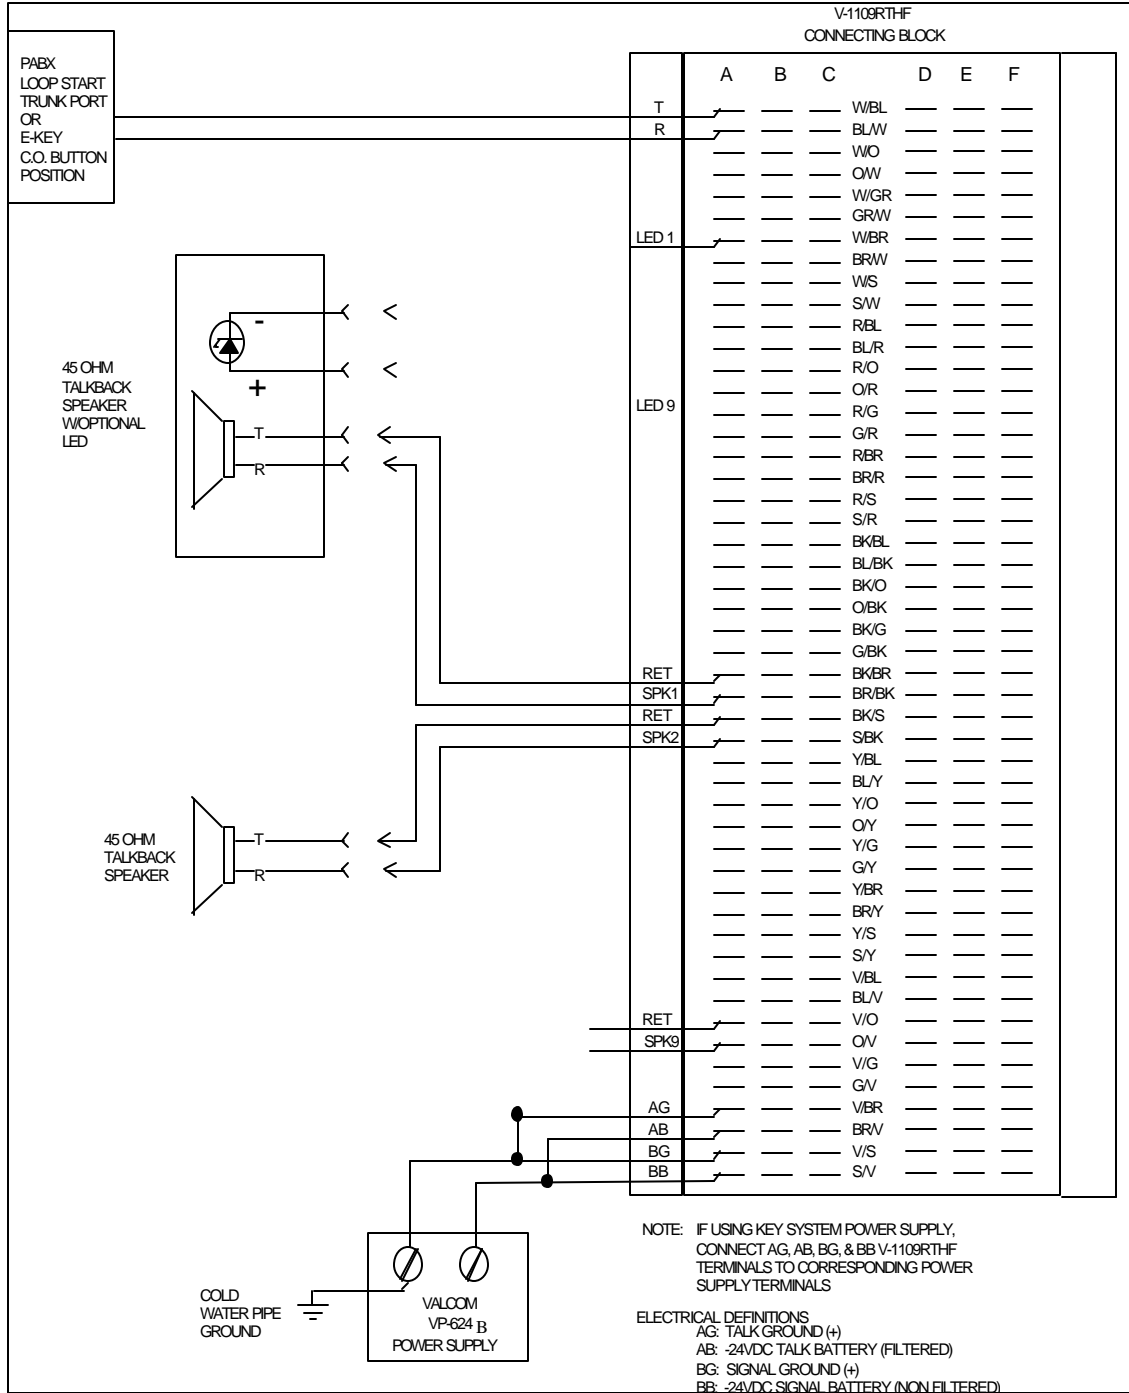

Figure 4
- W/BL, BL/W of V-1109RTHF to spare button Tip and Ring. Refer to Figure 4 for connections.
- O/W to Lamp Lead of spare button for lamp connections. Refer to Figure 4 for connections.
The output for paging zones start at the BK/BR pair (zone 1) through the V/O pair (zone 9). Refer to Figure 4 for typical speaker connections using Valcom 45 Ohm Talkback speakers. **No more than two 45 Ohm Talkback speakers may be connected to a zone.**